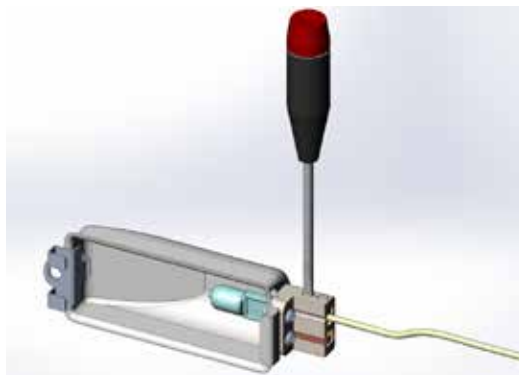

Figure 11
3. If needed, use a small flat-blade screwdriver to carefully pry off the lens and set aside. Loosen the 2 screws closest to the lamp housing (Fig. 11). These screws hold the bulb in place. The bulb should come out easily. The bulb is a 20W halogen "Bi-Pin" type, available at most hardware stores and home centers.